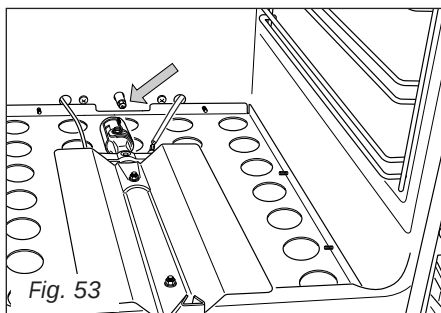

Fig. 53
- Withdraw the burner as shown in figure 53 and rest it inside the oven. Take care not to damage the wire to the ignition electrode and the safety valve probe.
- Using a 7 mm box spanner, unscrew the injector (indicated by the arrow in fig. 53) and replace it by the proper one according to the kind of gas. Then replace the burner repeating the above steps in reverse order.